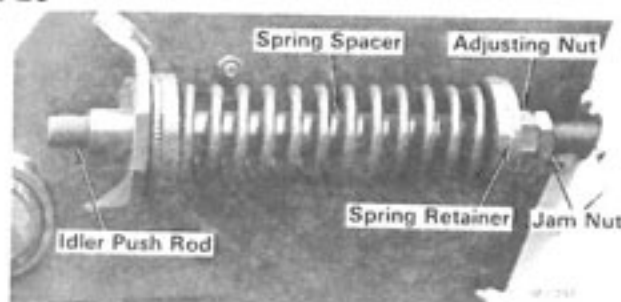

Figure 27
1. With the Shredder running, look at the idler push rod, Figure 27, to see if there is any back and forth movement. If there is, the belt tension needs to be adjusted.
2. Loosen the jam nut and tighten the adjusting nut one full turn, see Figure 27.
11. Turn the idler spring adjustment nut clockwise until the spring retainer is up to, but not tight against, the spring spacer, see Figure 27.
3. If the idler pulley is out of alignment, loosen the idler spring jam nut and back off the adjusting nut to relieve all idler spring tension, see Figure 27.
8. Turn the idler spring adjustment nut clockwise until the spring retainer is up to, but not tight against, the spring spacer, see Figure 27.